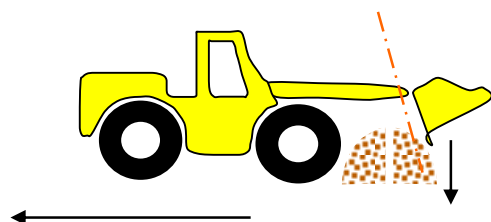

Figure 13
11. Operator pulls forward and turns bottom of bucket as close to "straight down" as possible. Operator then "back-blades" pile, at about knee height, to expose "center of mass" to be sampled. (See Fig. 13)